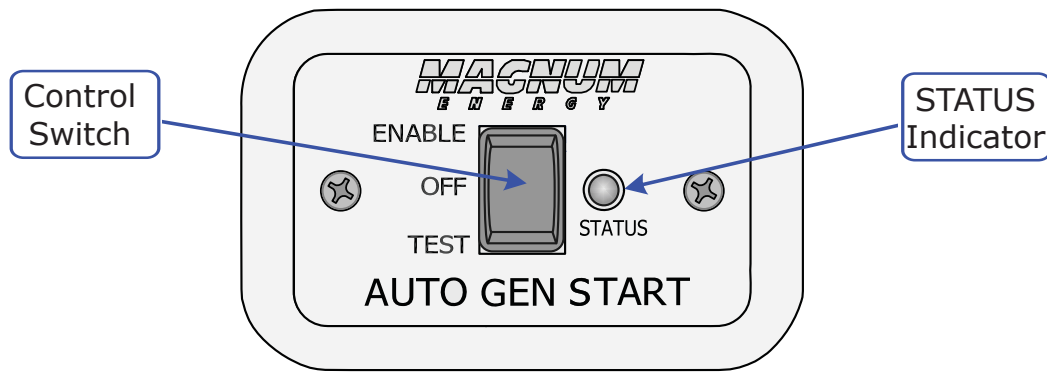

Figure 4-2, Remote Switch Controls and Indicators
b) Set the remote switch to the *TEST* position (Figure 4-2).
The AGS remote switch (see Figure 4-2) provides information and enables you to operate the controller. The remote switch receives its power from the controller through the communications cable, and comes on automatically when power is applied to the AGS controller. The remote switch provides an **ENABLE** position to activate the auto gen system, an **OFF** position to turn the auto gen system off, and a momentary **TEST** position that allows the auto gen system to be tested remotely. A **STATUS** indicator is also included to remotely view system status.